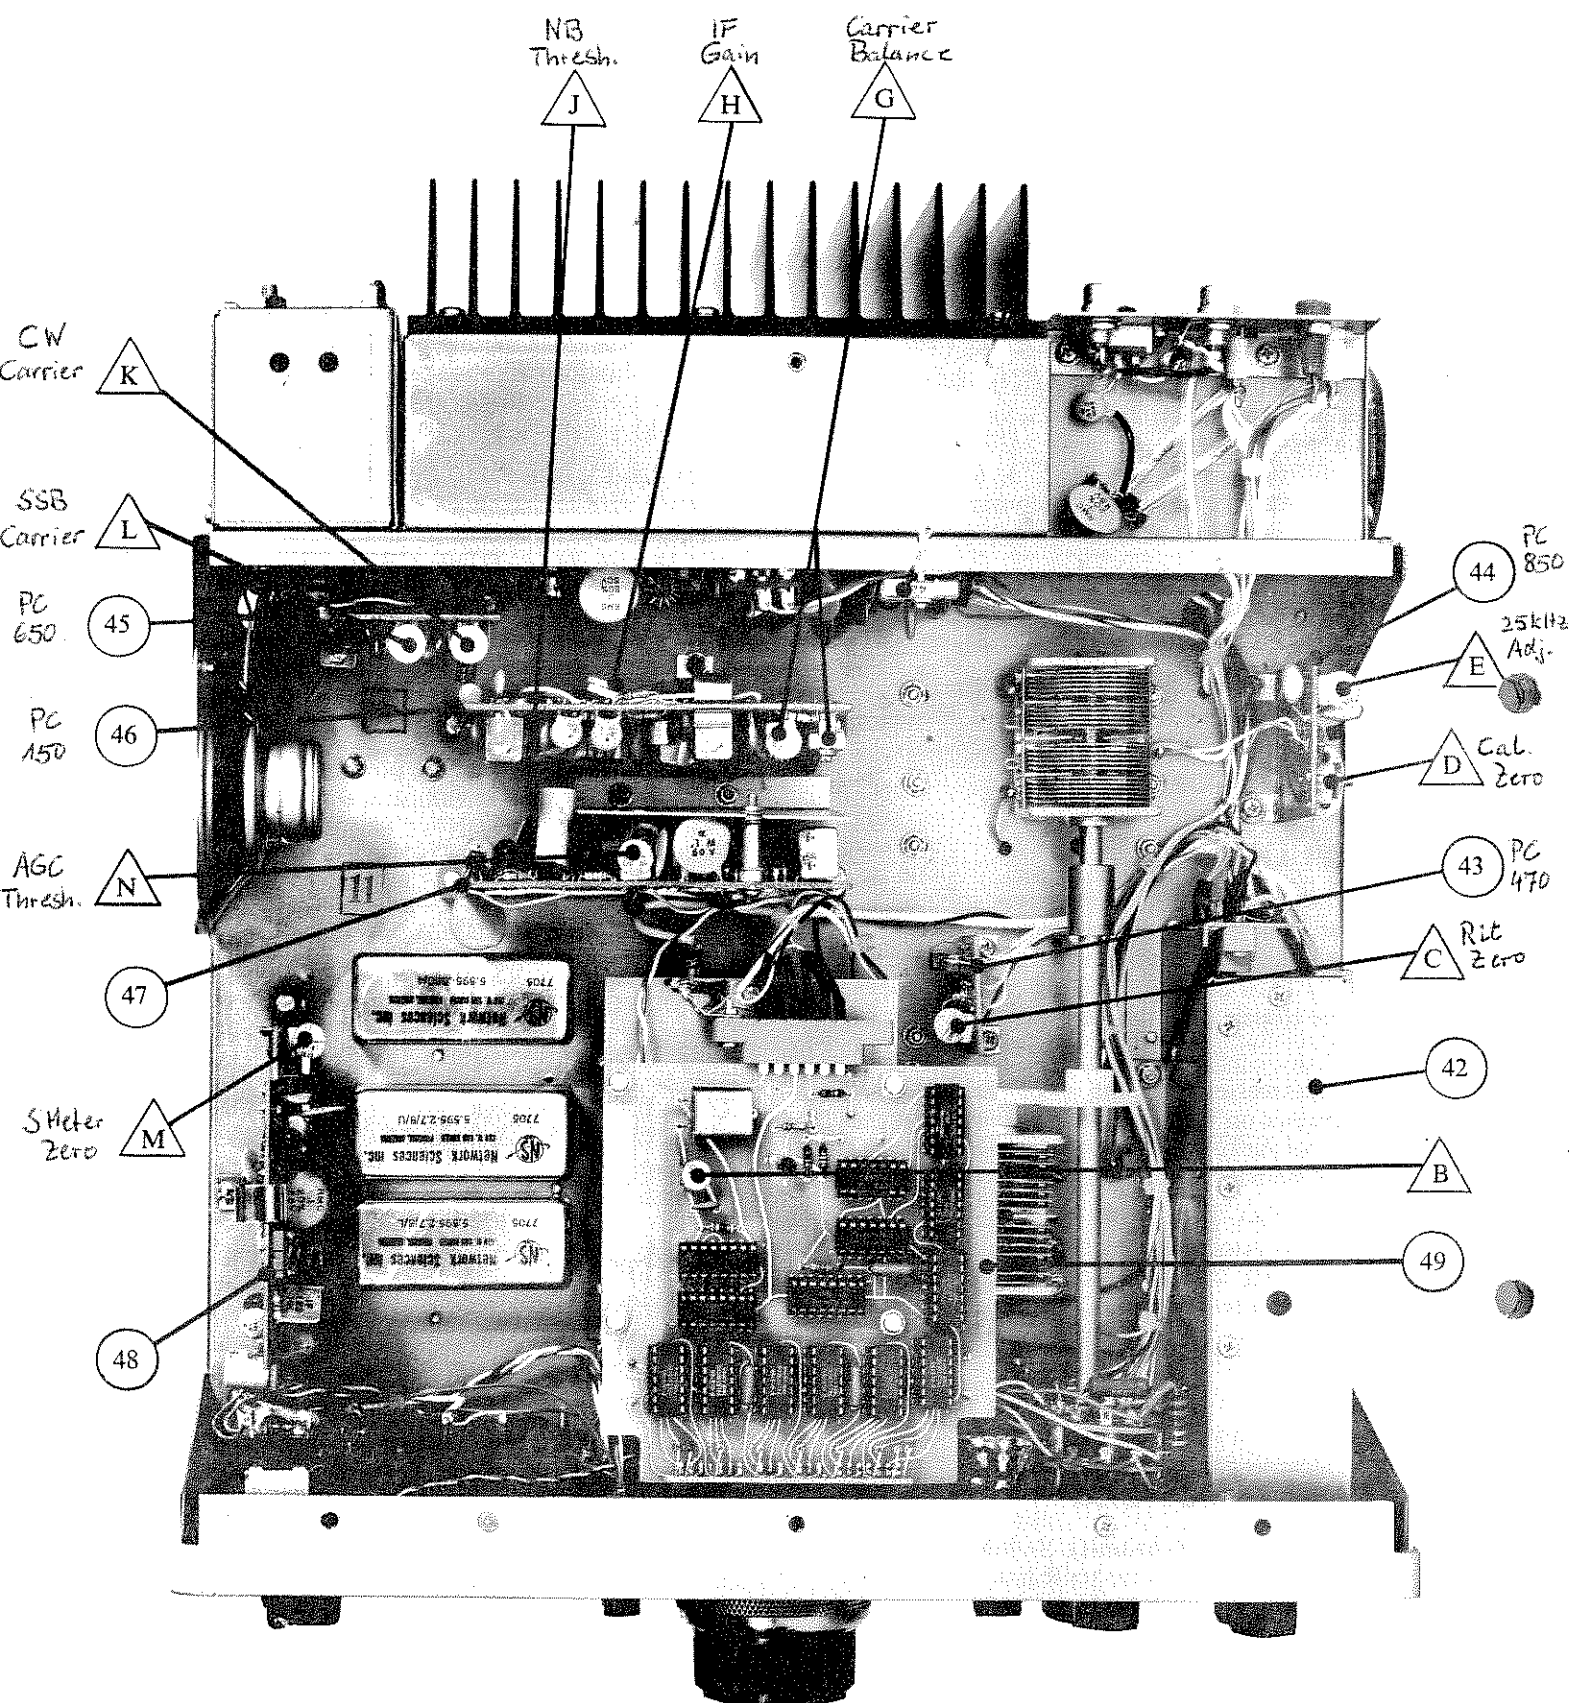

FIGURE 5.1 TOP VIEW, ATLAS MODEL 350-XL
With RX-TX Switch in TX position, connect voltmeter to gray wire eyelet on PC-650, (Item (45) , Figure 5.1), with switch in SSB position, voltage should measure 14 volts DC in TUNE/CW position, it should read about 0.1 DC.
NOTE: Early model 350-XL's have the PC-470 board mounted directly behind the DIAL SET/RIT Potentiometer. Later models have the PC-470 mounted as shown in Figure 5.1.
2. **R.F. Gain** (Item 3 , Figure 3.1). Locate PC-150 (Item 46 , Figure 5.1), terminal 14. R.F. Gain should run from 2.5 to 9 volts, approximately.
A. Zero Adjustment: Using the Digital Dial reading, tune to an exact 100 KHz increment, such as 14,200.0. Adjust capacity trimmer (Item 44 , figure 5.1), on PC-850, for exact zero beat. Switch between LSB and USB until no heterodyne can be heard on either sideband.
Switch on and tune in signals. Stop at a 25 KHz spot, such as 225 or 275, and adjust TRIM-POT (Item 44 , Figure 5.1) on PC-850 (Item 44 , Figure 5.1) for stable signal. Start with trimpot full CCW, and turn until 25 KHz signal pops in. There are other spots where the multivibrator will lock in at 25 KHz, as well as 20 or 33 1/3, but the first one from full CCW is the most stable.
- Set AGC Threshold trimpot (Item 44 , Figure 5.1) to midrange.
- Set S-Meter zero trimpot (Item 44 , Figure 5.1) for 0 reading on meter.
Tune 350-XL to 14.2 MHz. Set filter switch in LSB position. MIC/ALC and TX DRIVE at minimum. SSB-TUNE/CW switch in TUNE/CW position. Insert CW key and press key to transmit. Advance MIC Gain (Now carrier insertion) or TX DRIVE on later models to increase power output. Set to about 100 watts. Then, switch filter control to CW position. Adjust right hand trimmer (Item Δ , Figure 5.1) on PC-650 (Item 45, Figure 5.1) for maximum output. Power should now be the same, or within 20 watts or so, as in LSB position. This last adjustment has set carrier frequency for CW transmit. THIS TRIMMER SHOULD NOT REQUIRE FURTHER ADJUSTMENT.
Switch FILTER to USB and move the A.F. Generator until power is again at 20 watts. Call this A.F. #2. Adjust the left hand trimmer (Item Δ , Figure 5.1) on PC-650 to bring A.F. #1 and #2 together.
Alternate method: Trimmer (Item Δ , Figure 5.1) may be adjusted fairly close by simply listening to the pitch of background noise on both LSB and USB and setting the trimmer to the place where background noise sounds the same. This is not as accurate as using the audio generator, but will be quite close.
Tune 350-XL to 14.2 MHz. Connect Monitor Scope and/or Dummy Load/Wattmeter. Note: Wattmeter can be used in place of Monitor Scope. FILTER in LSB position, and MIC Gain full clockwise. Switch TX/RX switch to TX and adjust carrier balance trimpot (Item Δ , Figure 5.1) for minimum scope deflection, or wattmeter reading. Adjust Phase Balance trimmer (Item Δ , Figure 5.1) for minimum scope deflection or wattmeter reading. Re-adjust carrier balance trimpot for minimum reading. Note wattmeter reading. If reading is somewhat higher than 1 or 2 watts, rotate, the MIC Gain control (Carrier Insertion) until a null in the wattmeter reading is found. This reading should not be more than 1 or 2 watts. On some 350-XL's, without TX DRIVE, minimum carrier is not achieved at the full CCW setting of the MIC Gain, but at a point somewhere between 9 and 12 o'clock on the MIC Gain control. This is normal and should not be of any concern.
Tune transceiver to 1.8 MHz. With Dummy Load and Wattmeter connected, set I.F. Gain trimpot (Item Δ , Figure 5.1) to full CCW position. Switch transceiver to CW transmit mode and rotate gain control trimpot in a clockwise direction until a slight decrease in power is noted, (2-3 watts).